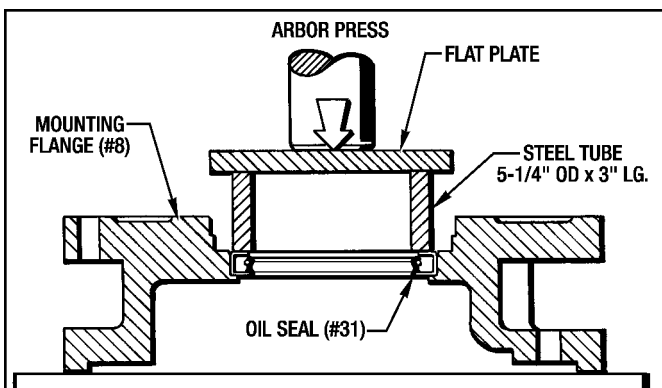

Figure 7.14 - Installing Oil Seal for MSB9 and MSB10
4. Press the new Oil Seal (#31) into the bore with an arbor press as shown in Figure 7.14.